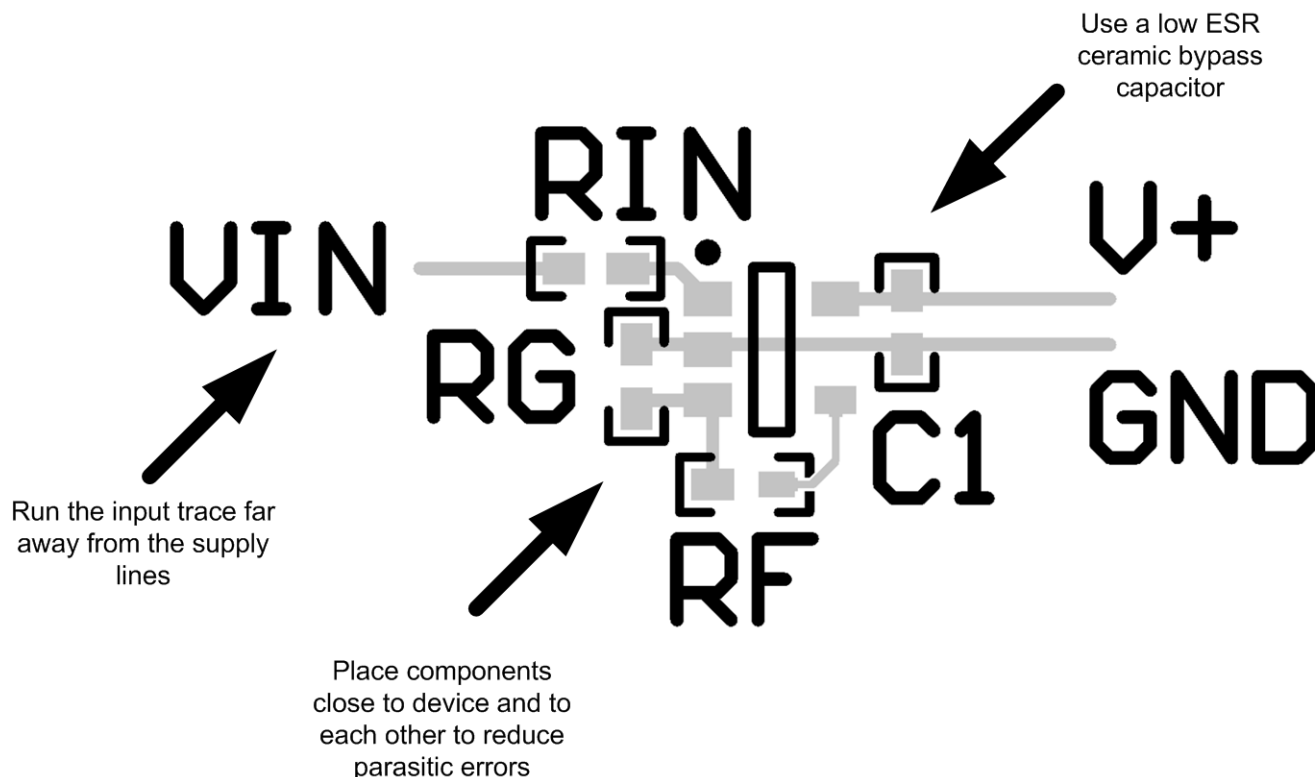

Figure 47. Operational Amplifier Board Layout for Noninverting Configuration
- Place the external components as close to the device as possible. Keeping R_F and R_G close to the inverting input minimizes parasitic capacitance, as shown in Figure 47.